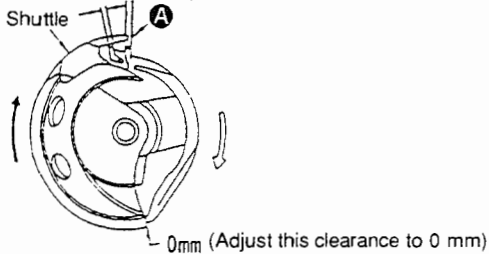

Fig. 5-7-2
Under the condition described in the above step 1), the center of the needle meets the point of the shuttle. (A in Fig. 5-7-2)
The clearance between the shuttle and the shuttle driver is 0.5 to 0.7 mm (0.020" to 0.028") (0.6 to 0.8mm (0.024" to 0.031") for the GL type). (Fig. 5-7-2)
- 2), 3) Loosen setscrew ①, and adjust the direction of rotation and the longitudinal direction.
**(Caution)** When adjusting the shuttle timing, be sure to turn the shuttle in the direction of the arrow shown in Fig. 5-7-2.
- 4) Loosen setscrew ②, and turn eccentric shaft ③ to adjust.
- 5) Loosen setscrew ②, and adjust. Use great care when adjusting the clearance between the needle and the point of the shuttle described in step 4).
**(Caution)** Strike portion ④ to adjust the clearance between the shuttle and the shuttle driver to 0.5 to 0.7 mm (0.020" to 0.028") shown in Fig. 5-7-2. (0.6 to 0.8 mm (0.024" to 0.031") for the GL type)